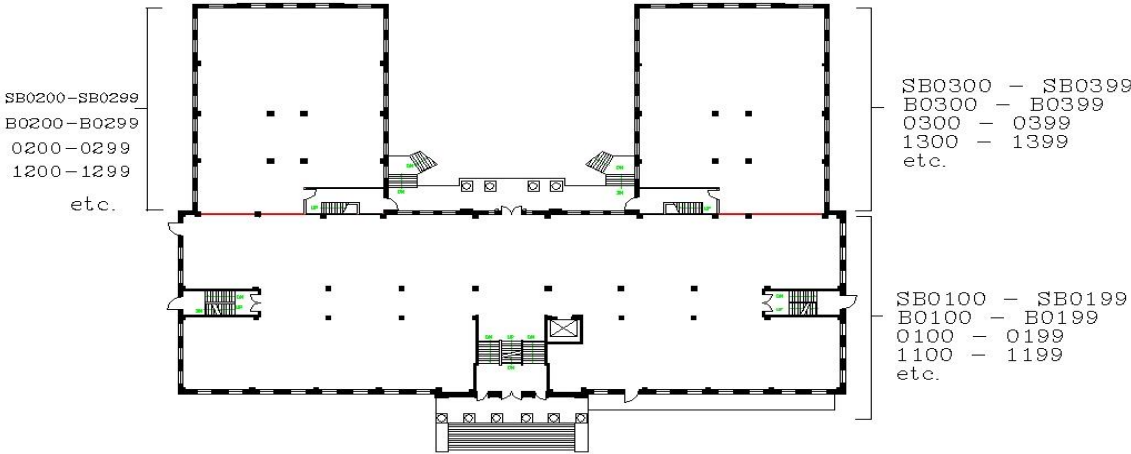

Figure 1
- Interior Room Numbering Standard- In order to properly identify rooms, assign space and maintain a computerized space inventory and key control, the following room numbering and identification system is in use at the College Park Campus (See Figure 1):